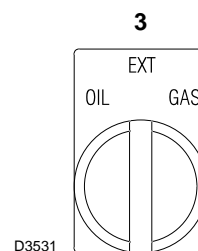

Fig. 33
- 1 using selector 3)(Fig. 33);
By setting selector 3)(Fig. 33) to "EXT", you activate the remote fuel selection facility.